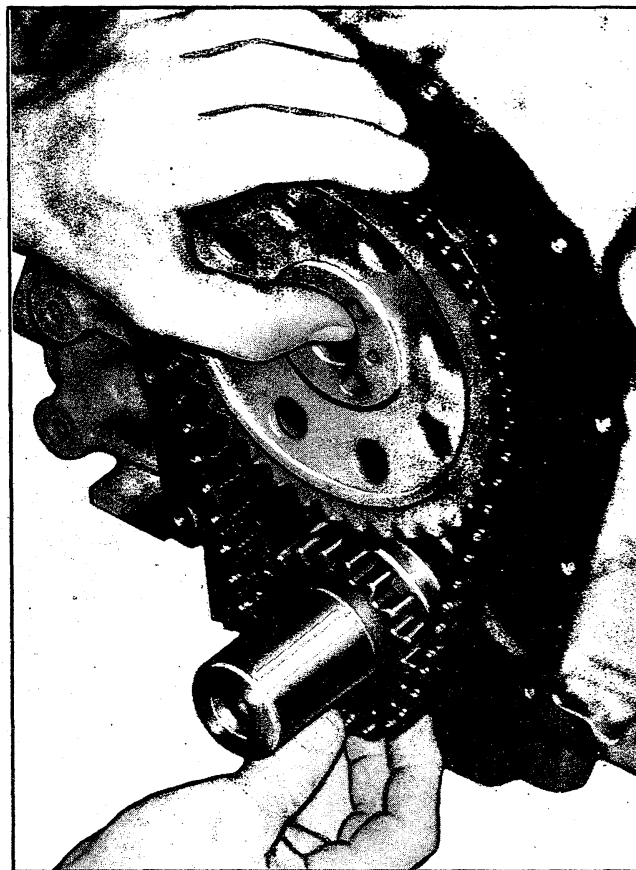

Fig. 25V - Installing Timing Chain
7. Align dowel in camshaft with dowel hole in camshaft sprocket and install sprocket on camshaft (fig. 25V).
3. Align dowel in camshaft with dowel in hole in camshaft sprocket then install sprocket on camshaft. Refer to Figure 25V.